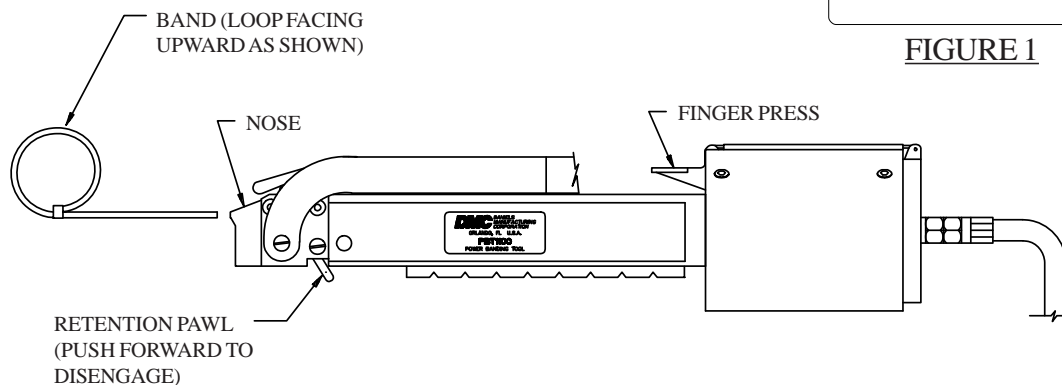

FIGURE 2
- 1.3 Activate and hold down the finger press in order to allow the shuttle assembly to move forward. While holding the finger press, insert the mini-band into the nose of the tool with the band loop oriented on the upper side of the nose (see Figure 2). Release the finger press to allow the shuttle assembly to move back to its original position, ensuring that the band has been captured by the gripping mechanism. **NOTE: While pulling up larger bands over smaller diameters, care should be taken to ensure that the coil alignment is maintained.**